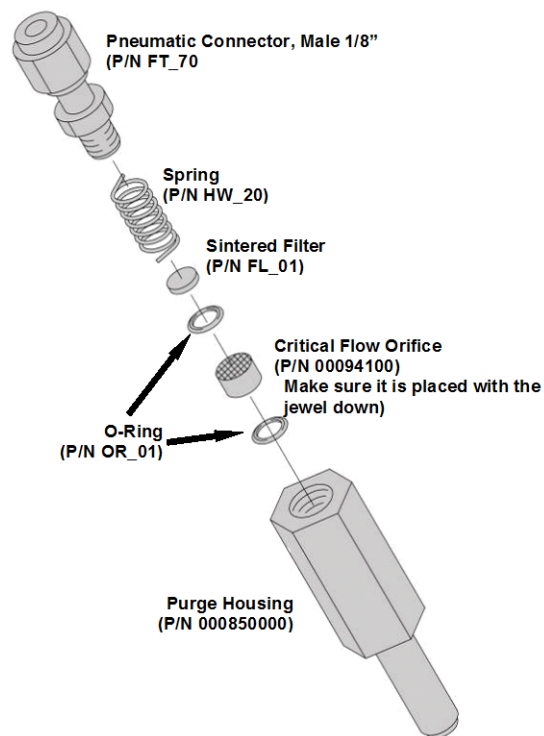

Figure 8-10: Critical Flow Restrictor Assembly Disassembly
4. Remove the fitting and the components as shown in the exploded view in Figure 8-10.